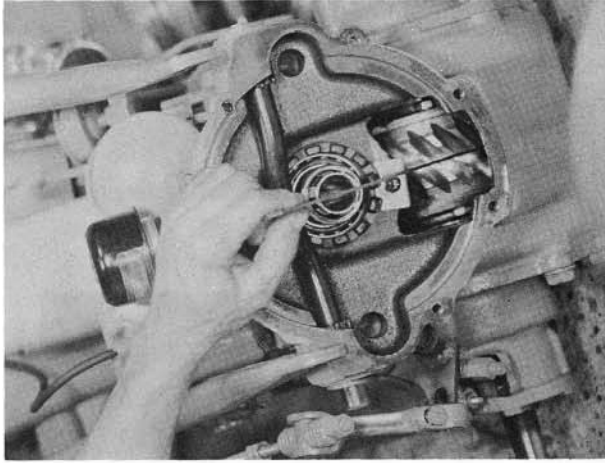

Figure 43
21. Remove the front planetary and further check alignment of Wormshaft and Differential. If Worm Wheel is not centered on the Worm Gear, rearrange shims between the axle housings and chassis till the Differential Worm Wheel is centered on the Worm Pinion. See Figure 43.